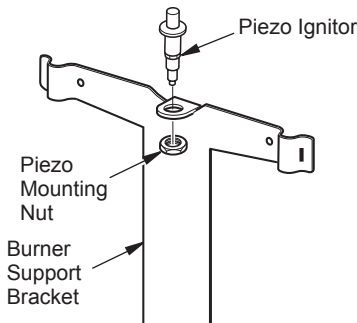

Figure 1 - Installing Piezo Ignitor
2. Insert the piezo ignitor into the bracket on the burner support bracket as shown in Figure 1. Tighten the piezo mounting nut. Do not over tighten the nut.